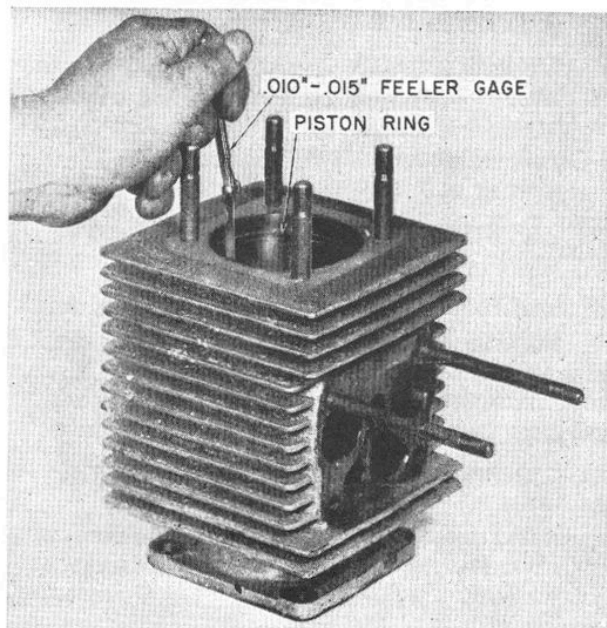

FIG. 13—CHECKING PISTON RING BUTT GAP
- c. Check ring fit in piston land. Ring must move freely with a minimum clearance as shown in figure 13.